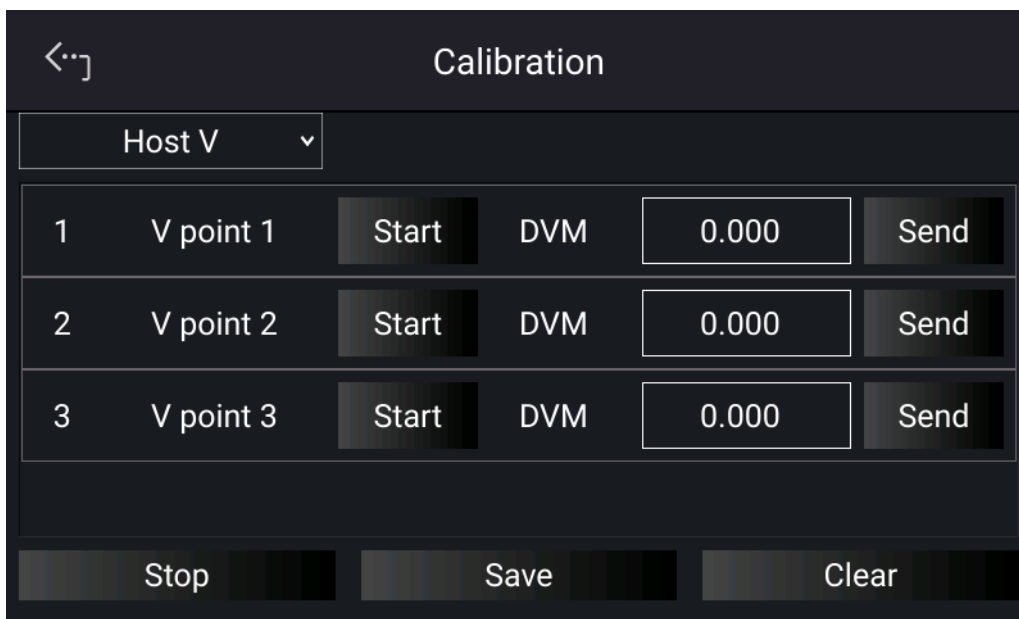

Figure 3-81
1. On the Calibration page, tap “Host V” to list the voltage calibration items as shown in Figure 3-81.